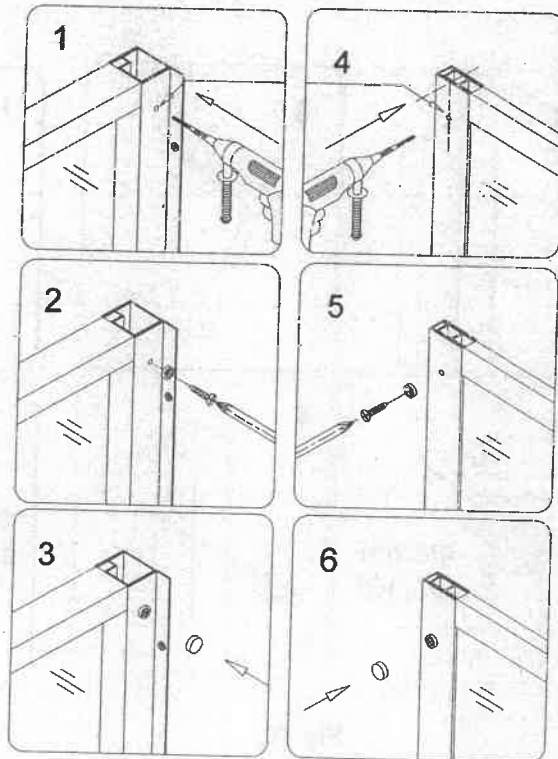

Fig 15
12. Drill on the profiles according to the adjusted position together, and fix with **Round head screw ST4.2x10 (07)** and the **Decorative Covers (13)**, so as to fasten the door well. See Fig 15 for details.